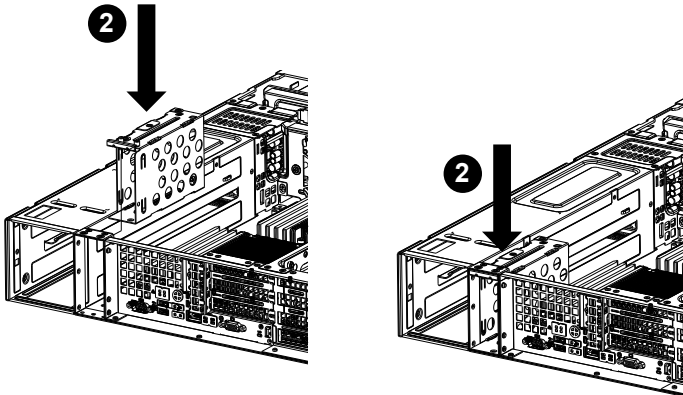

Figure 5-5. Installing the Rear 2.5" Hard Drive Cage
2. Orient the rear hard drive cage as shown (Figure 5-5), aligning the opening at the end of the cage with the opening at the back of the chassis.